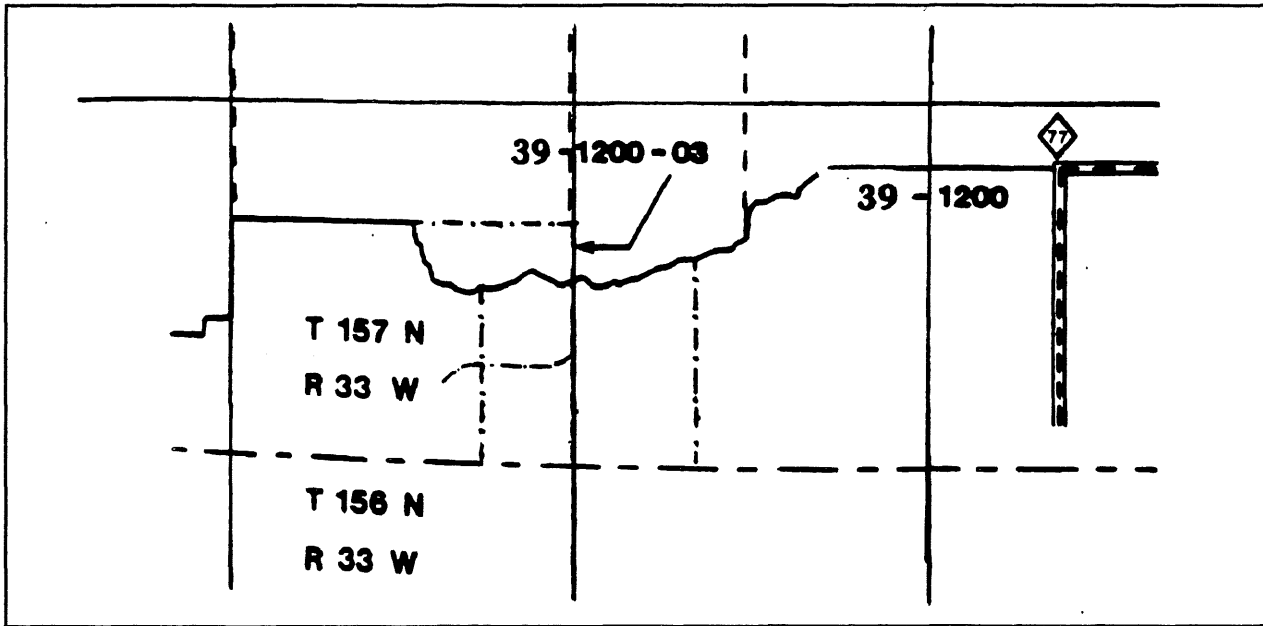

FIGURE NO. 3
The roads branching from the arterials are collectors. The collectors will carry the same county and arterial numbers as the arterial they logically branch from. In addition, each collector will carry a two (2) digit designation of its own. These will be numbered consecutively in their order of intersection with the arterial, with spaces left to accommodate future additions as necessary. See Figure No. 3.